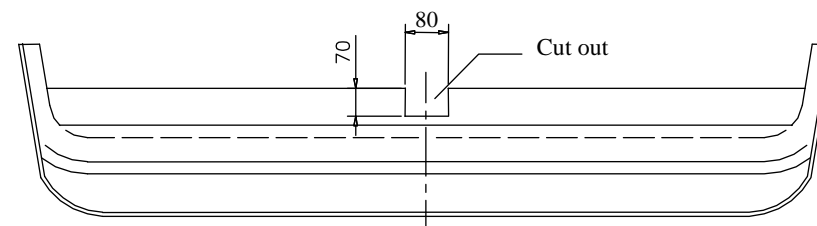

Fig. 2
3. On the left and right side put to chassis members brackets (pos. 4 and 5) in this way so elongated holes tally with plastic pin protruding from floor and next through holes (pos. A, B, C) drill holes $\phi 11$ mm.
4. Bracket (pos. 5) screw through hole (pos. C) using washers (pos. 10) and bolts M10x30mm (pos.9).
5. Put main bar of towbar (pos. 1) to mounted brackets (pos. 4 and 5), through holes (pos. A and B), washers and plates (pos. 6) screw with chassis member using bolts M10x50mm (pos. 8) from towbar accessories.
6. Through holes (pos. D) drill holes $\phi 11$ mm and next screw with bolts M10x30mm – pos. 9 (use washers $\phi 35 \times \phi 12 \times 3$ mm – pos. 10).
7. Fix body of the automat (pos. 15) and the socket plate (pos. 3) using bolts M12x25mm (pos. 7) from accessories. Place tow-ball (pos. 2) according to supplied instruction.
9. In central part of the bumper cut out fragment 70x80mm as shown in the fig. 2.